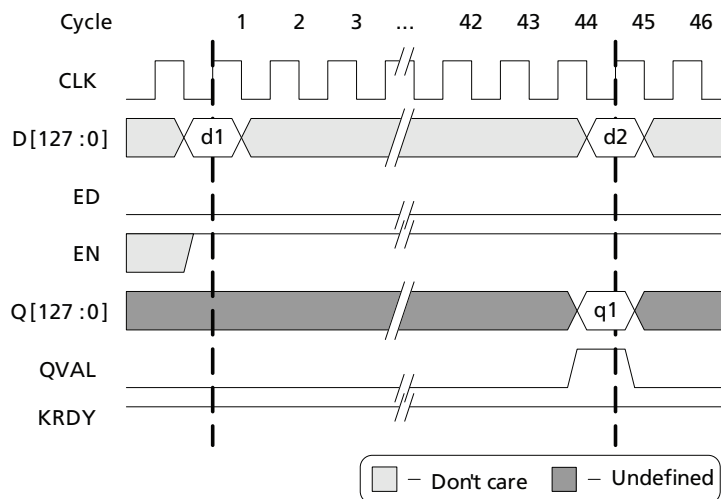

Figure 3-4 · Example Decryption Sequence
Follow the steps below to begin the decryption data process (Figure 3-4 on page 16):
2. Set D[127:0] to the ciphertext data to be decrypted (d1 in Figure 3-4).
After 44 clock cycles of the EN input being held continuously at logic '1', the QVAL signal will transition from logic '0' to logic '1' and remain valid for one clock cycle, indicating that valid plaintext (unencrypted data, shown as q1 in Figure 3-4) is available on the Q[127:0] outputs. The decrypted plaintext data is only available during clock cycle 44, so you must register or latch the data on Q[127:0] using the QVAL signal as a qualifying register enable or latch enable.
As shown in Figure 3-4, continuous decryption is possible. For example, the second 128-bit cipher text data word (d2 in Figure 3-4) can be immediately decrypted by setting the D[127:0] inputs to d2 on the rising clock edge of clock cycle 45.